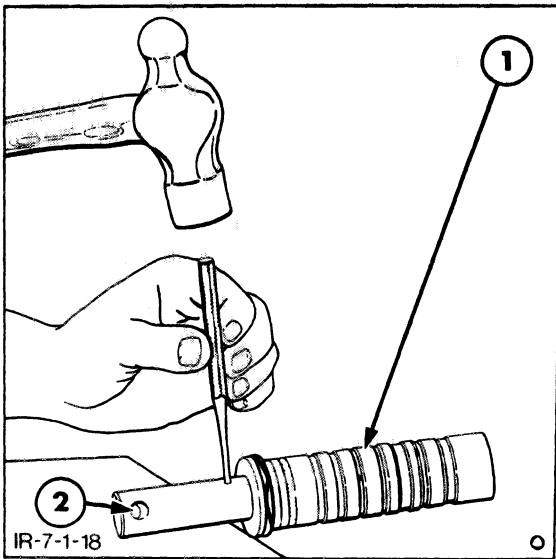

FIGURE 7-18
- 18. Use a punch 0.12" (3 mm) maximum diameter and 0.63" (16 mm) minimum length, to remove the torsion bar retaining pin. Place the input shaft on a block of wood and use light hammer blows to remove the pin, Figure 7-18.